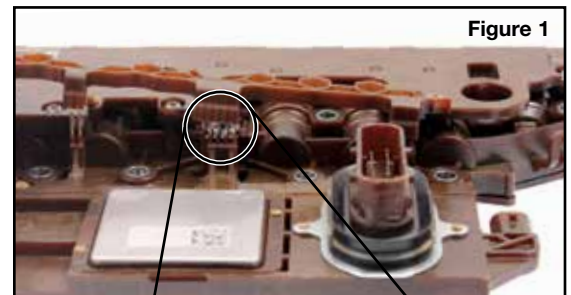
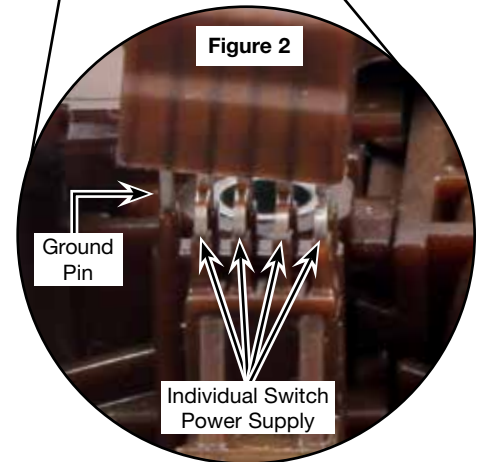

Figure 1
Figure 2
- a. **Testing 6T70/75 switches:** Locate five-pin pressure switch terminals (**Figure 1**). Ground pin is all the way to the left; moving to the right, each pin is power supply for an individual switch (**Figure 2**). Place negative ohmmeter lead on ground pin and positive lead on a power supply pin. At rest, each switch should read between .5 and 10 ohms. Depressing switch with pencil eraser should result in O.L. reading.